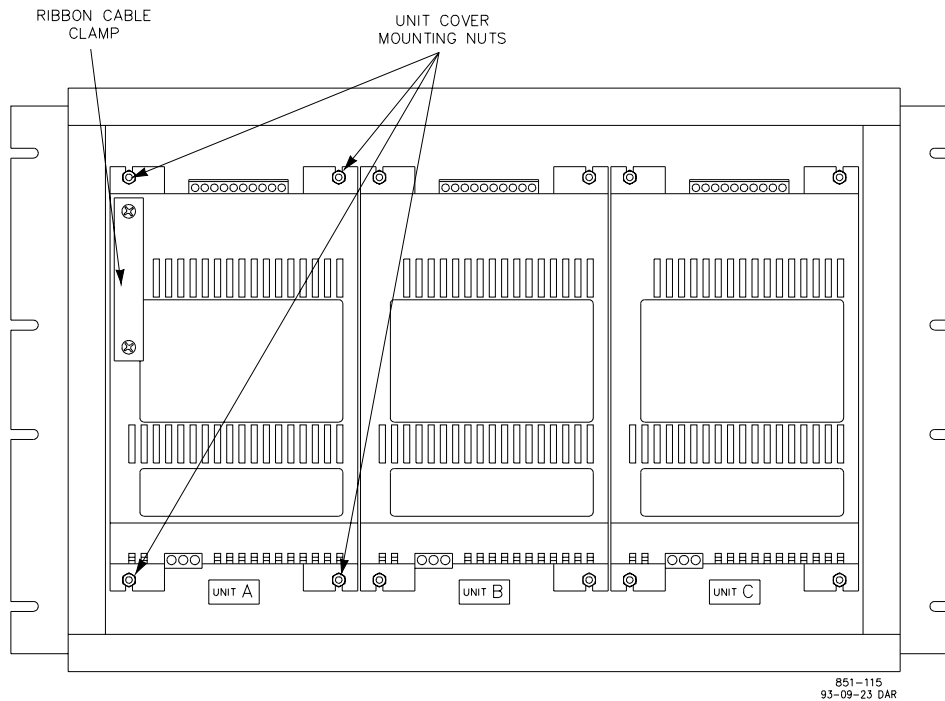

Figure 5-2. Unit Covers Inside the ProTech Device
3. If you're replacing a fuse in Unit A, remove the ribbon-cable clamp and retain for use when re-installing the cover (Figure 5-2).
4. Unplug the power supply board terminal block, then unplug the I/O board terminal block (Figure 5-2).
5. Remove the four nuts on the unit's cover, and carefully lift the cover off (Figure 5-2). Retain the cover and the nuts to be reinstalled after changing the fuse.
9. If you've been working on Unit A, replace the ribbon-cable clamp onto the cover (Figure 5-2).
3. If you're replacing Unit A, remove the ribbon-cable clamp and retain for use when installing the replacement unit (Figure 5-2).
5. Remove the four nuts on the unit's cover, and carefully lift off the cover (Figure 5-2). Retain the cover and the nuts to be reinstalled with the replacement unit.
9. If you've replaced Unit A, replace the ribbon-cable clamp onto the cover (Figure 5-2).